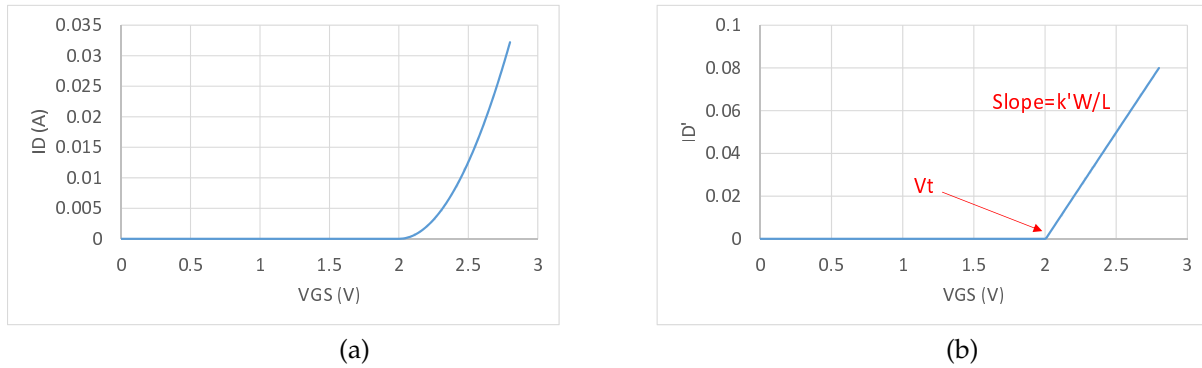

Figure 4: NMOS characterization (a) I_D vs. V_{GS} (b) $\frac{dI_D}{dV_{GS}}$ vs. V_{GS}
Figure 4(a) shows the drain current (I_D) of an NMOS transistor as a function of V_{GS} . Transistor parameters such as the threshold voltage (V_t) and the transconductance parameter ($k'W/L$ or β) can be obtained by taking the derivative of I_D with respect to V_{GS} , as depicted in Fig. 4(b). In this plot, $k'W/L$ (or β) is the slope of the line, whereas V_t is the intersection with the V_{GS} axis.
- Plot the derivative of I_D as a function of V_{GS} and find V_t and $k' \frac{W}{L}$ as depicted in Fig. 4(b). In Excel, dI_D/dV_{GS} can be calculated as shown with the column **ID'** in Fig. 5, starting with the formula (B3-B2)/(A3-A2). However, due to noise in the measured data, taking the derivative without filtering can result in the **ID'** plot shown in Fig. 6(a). Using decimation provides filtering and reduces the noise in ID'. The column **ID' (decimated)** in Fig. 5 shows the starting formula (to be copied to all cells below), and the resulting plot is shown in Fig. 6(b). In this plot, a decimation factor of 300 is used. The corresponding V_{GS} should also be shifted as shown with the **VGS (adjusted)** column in Fig. 5.